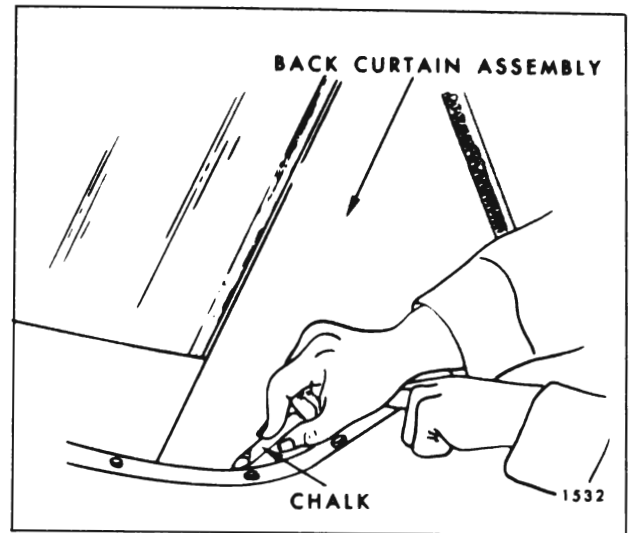

Fig. 13-57—Marking Back Curtain
14. Where required, place reference chalk mark on outer surface of back curtain along pinchweld finishing molding. Re-adjust back curtain assembly as required (Fig. 13-57).